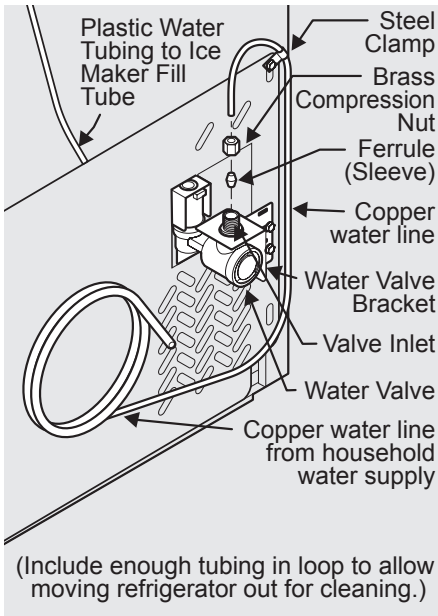

Figure 1
4. If you use copper tubing - Slide brass compression nut, then ferrule (sleeve) onto water supply line. Push water supply line into water valve inlet as far as it will go (1/4 inch/6.4 mm). Slide ferrule (sleeve) into valve inlet and finger tighten compression nut onto valve. Tighten another half turn with a wrench; DO NOT over tighten. See Figure 1.